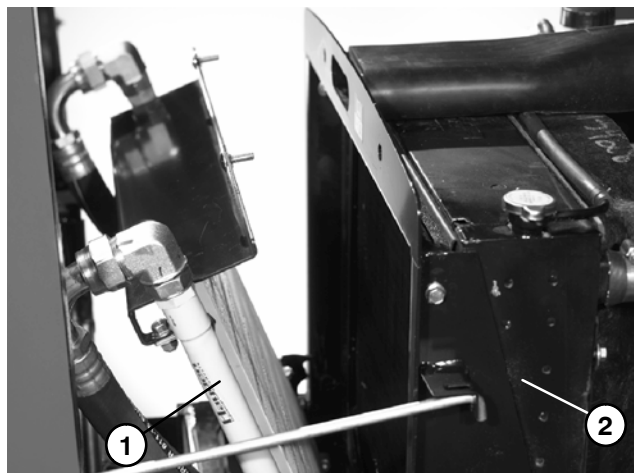

Figure 87
4. Remove oil cooler using Figures 87 and 88 as guides.
1. Install oil cooler using Figures 87 and 88 as guides.